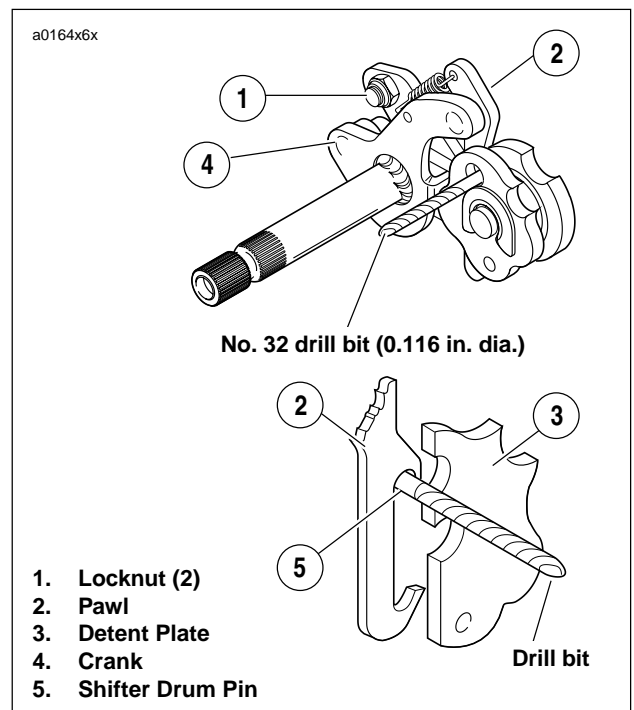

Figure 6-61. Shifter Shaft Assembly Alignment
5. See Figure 6-61. Align shifter shaft.
- b. Place a No. 32 drill bit (0.116 in. dia.) through hole in detent plate (3), and between pawl (2) and drive pin at end of shifter drum shaft.
- c. Push down top of crank (4) to remove all clearance between pawl and drill bit; this will correctly align pawl to shift drum pins (do not push down with too great a force, as this might cause the shifter drum to rotate).
- d. With bit in place, tighten shifter shaft assembly bottom locknut (1) first to 90-110 **in-lbs** (10.2-12.4 Nm). Then, tighten shifter shaft assembly top locknut (1) to the same torque.